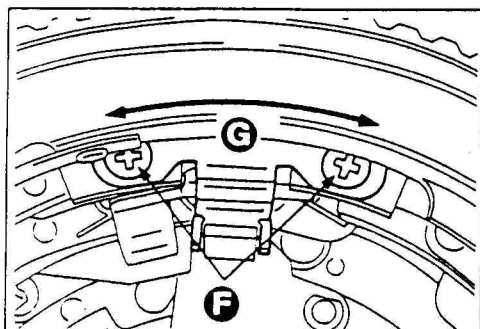

Fig. 3
3. Loosen the screw (F), slide the coupling arm (G), and adjust the clearance. (See Fig. 3.)